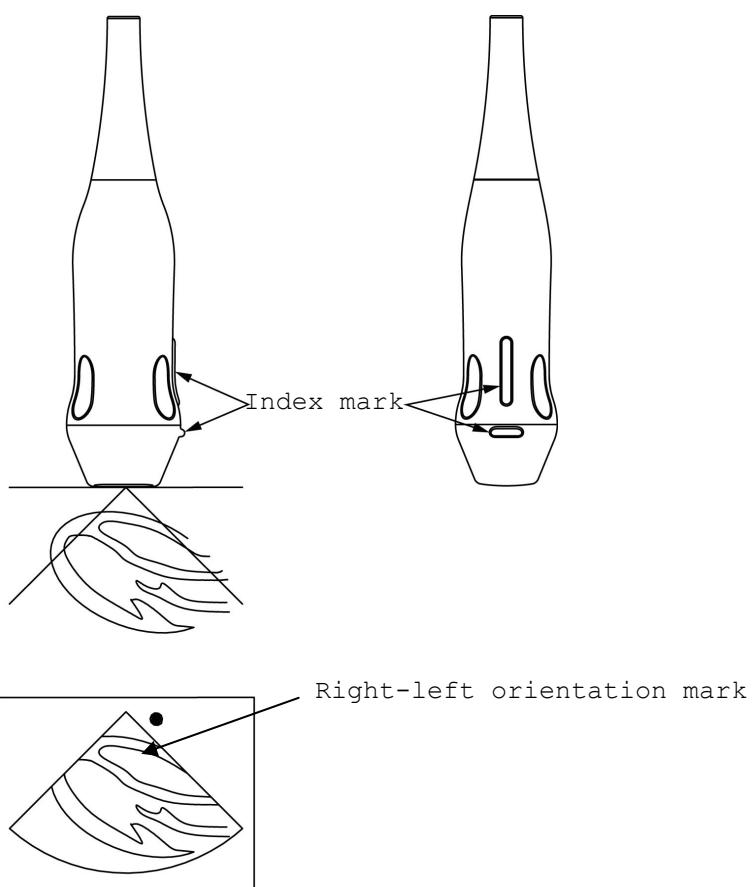

Fig. 2 Relationship between direction of the probe and Right-left orientation Mark
- 3) Relationship between direction of the probe and the image is shown in Fig. 2. The right-left orientation mark on the image indicates the index mark on the probe.